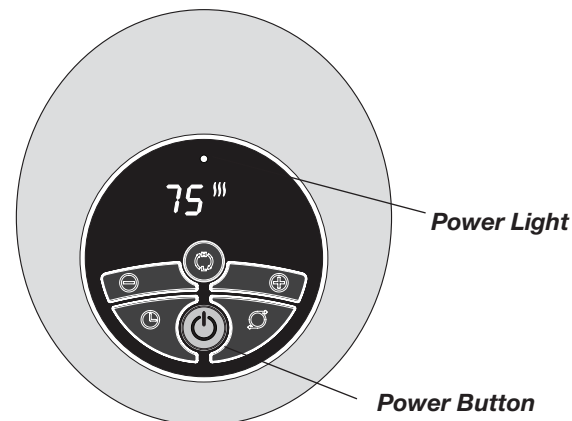

Figure 1
- When the Heater is initially plugged in, there will be a "beep" and the **Power Light** will come on indicating that there is power to the unit. The **Power Light** will remain lit until the Heater is unplugged from the electrical outlet. (Figure 1)
- Upon turning the Heater on, the unit will be in HIGH heat (III) (1500 Watts) and will display the current room temperature. (Figure 1)
- Press the (⏻) button for LOW heat (I).